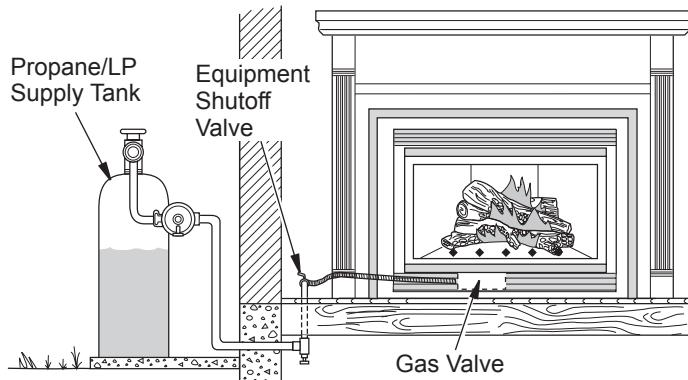
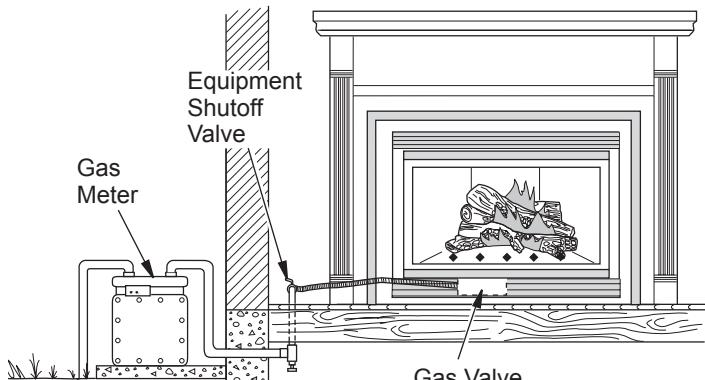

Figure 34 - Checking Gas Joints for Propane/LP Gas Fireplace
Figure 35 - Checking Gas Joints for Natural Gas Fireplace
- Check all joints from propane/LP supply tank or gas meter to equipment shutoff valve (see Figure 34, for propane/LP or Figure 35, for natural gas). Apply noncorrosive leak detection fluid to all joints. Bubbles forming show a leak. Correct all leaks at once.
- Check all joints from equipment shutoff valve to gas valve (see Figure 34 for propane/LP or Figure 35 for natural gas). Apply noncorrosive leak detection fluid to all joints. Bubbles forming show a leak. Correct all leaks at once.